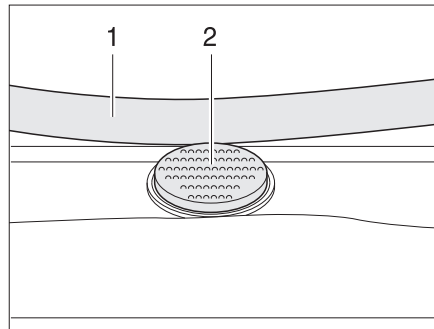

Fig. 44 Safety knob on the Heki skylight
Opening: ■ Press the safety knob (Bild 44,2) and pull the bar (Bild 44,1) down with both hands.
■ Push the bar upwards with both hands until it is above the safety knob (Bild 44,2).
- Press the safety knob (Bild 44,2) and pull the bar (Bild 44,1) down with both hands.